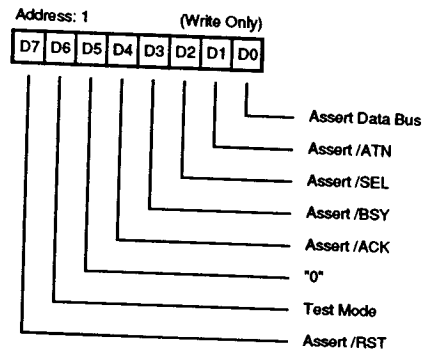

**Figure 7. Input Data Register**
**Input Data Register. Address 6 (Read Only).** The input Data Register (Figure 7) is a read-only register that is used to read latched data from the SCSI Bus. Data is latched either during a DMA Target receive operation when /ACK goes active or during a DMA Initiator receive when /REQ goes active. The DMA Mode bit (Mode Register bit 1) must be set before data can be latched in the Input Data Register. This register is read under DMA control using /RD and /DACK. Parity is optionally checked when the Input Data Register is loaded.